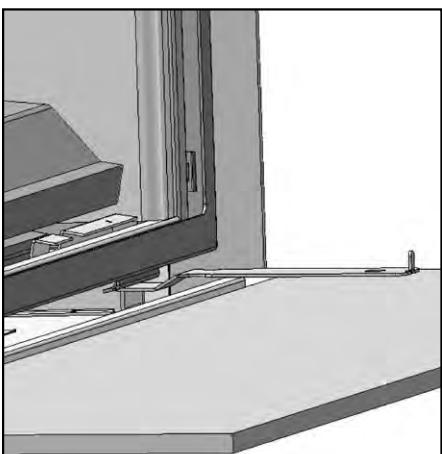

Figure 46: Door Latch Tool in Place.
- 1) The fireplace door is hung on two (2) hooks on the top of the firebox. The two (2) door latches at the bottom of the firebox hook over the tabs on the bottom of the door frame.
- 2) Lower the door latch tool underneath the door frame. Catch the lower door latch with the door latch tool (see Figure 44) and pull it out slightly, then down. Once the lower door latch clears the tab on the bottom of the door frame, release it inwards and then remove the door latch tool. Refer to Figures 46 & 47.